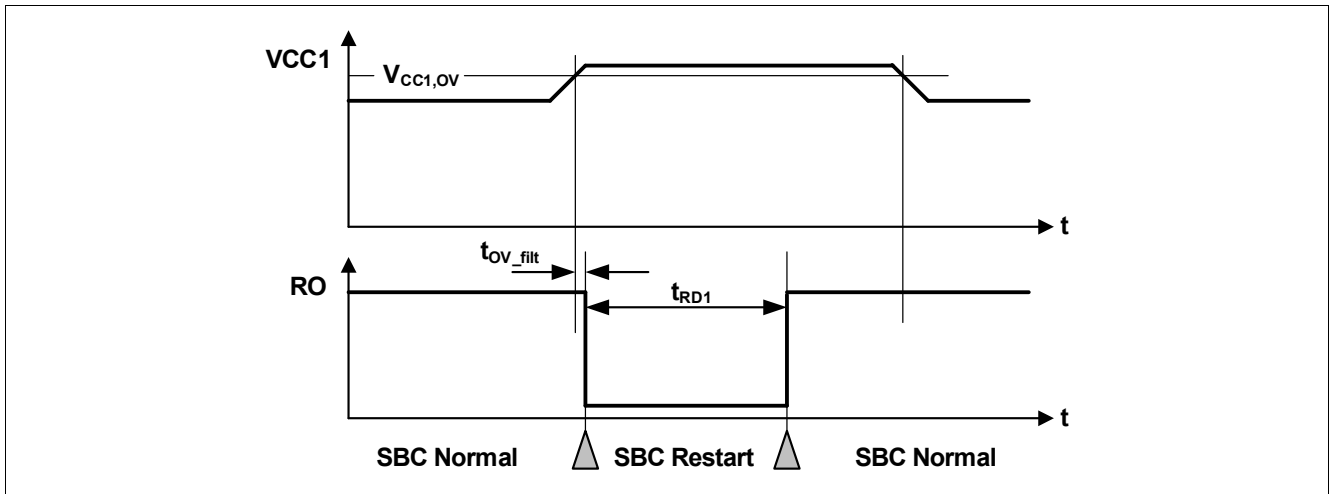

Figure 46 VCC1 Over Voltage Timing Diagram
- If the bit **VCC1\_OV\_RST** is set and **CFGP** = '1', then SBC Restart Mode is entered. The FOx outputs are activated. After the reset delay time ( $t_{RD1}$ ), the SBC Restart Mode is left and SBC Normal Mode is resumed even if the VCC1 over voltage event is still present (see also Figure 46). The **VCC1\_OV\_RST** bit is cleared automatically;